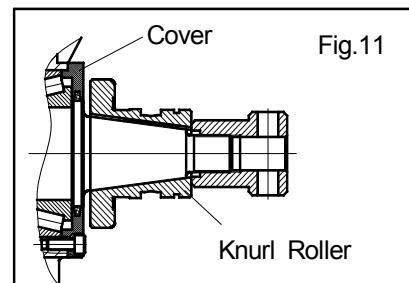

Fig.11
6.13 When dismounting the knurl roller of GC300 series pipe grooving machine, unscrew the nut firstly, then insert the wedge into the gap between knurl roller and cover, knock the wedge to make the knurl roller fall off. (Refer to Fig. 11)